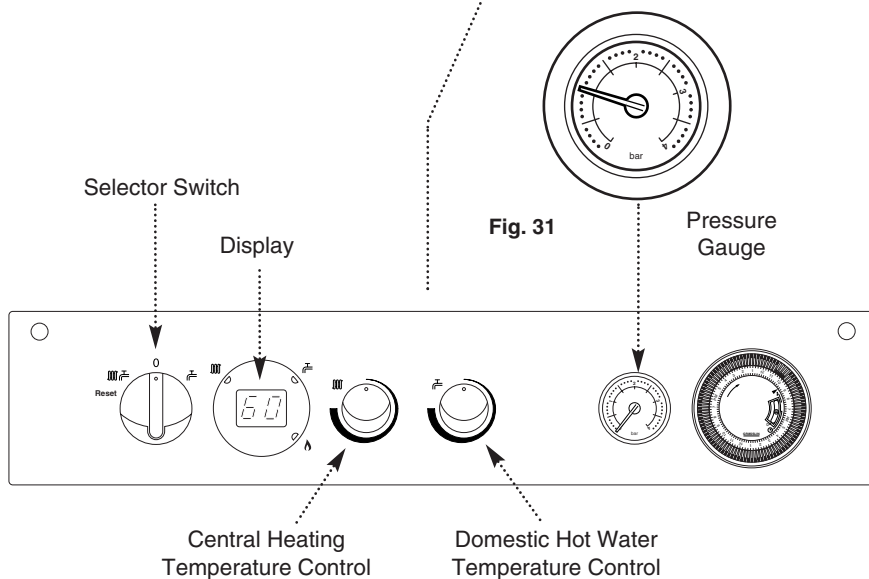

Fig. 32
11. Turning either of the temperature control knobs will set the relevant temperature. When the knob is turned the display will alter and show the selected temperature. After a few seconds the display reverts to show the current boiler temperature (Fig. 32).